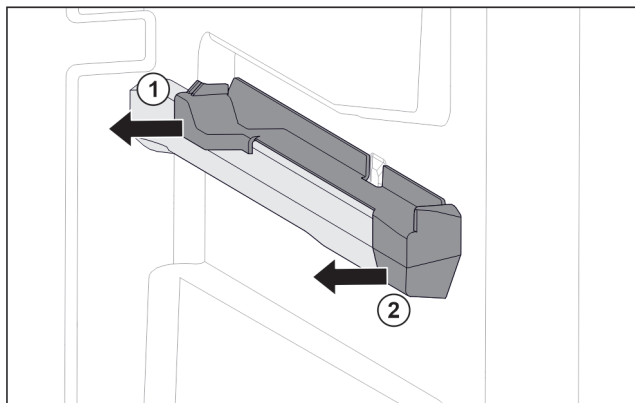

Fig. 73 Attachment on the right moulded rib
- Pull off attachment at the back sideways. Fig. 73 (1)
- Pull off attachment at the front sideways. Fig. 73 (2)